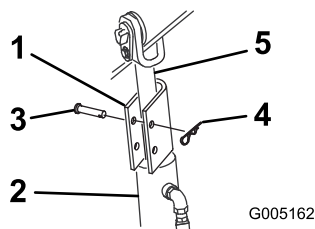

Figure 11
- Position a loader arm cylinder lock over each lift cylinder rod (Figure 11).
- Secure each loader arm cylinder lock with a clevis pin and cotter pin (Figure 11).